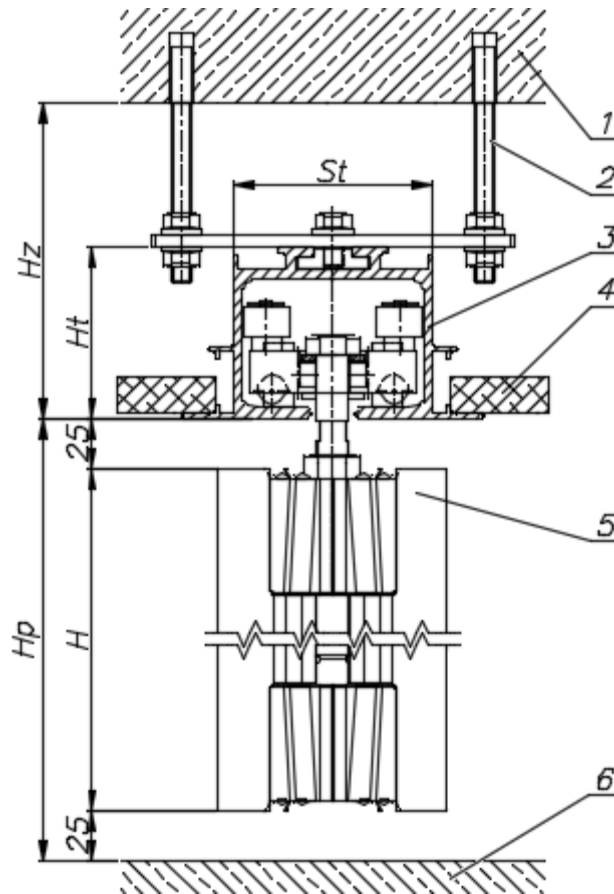

Fig.4. Suspension diagram of the track and the height in the wall
- height of the measured room **Hs** (Fig.4)
The track **must be adjusted and leveled** (**chapter 7.5**) until the **gaps between the floor and the panel and the track are adequate**, i.e. **25 mm each!** (Fig.4)
After assembling the track and setting it **leveled at the set height** (Fig.4), you can start measuring the height of the wall.
If the panels **have already been manufactured**, the track should be installed at the **APPROPRIATE** height in accordance with the **dimensions adopted in the design** and according to the diagram (Fig.4)
H_z -distance **from the bottom plane of the track to the ceiling** (Fig.4)